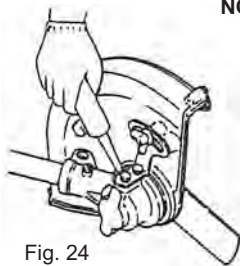

Fig. 24
- The gear case is lubricated with multi-purpose grease. The level should be checked after every 50 hrs. of use by removing check screw. (Fig. 24)